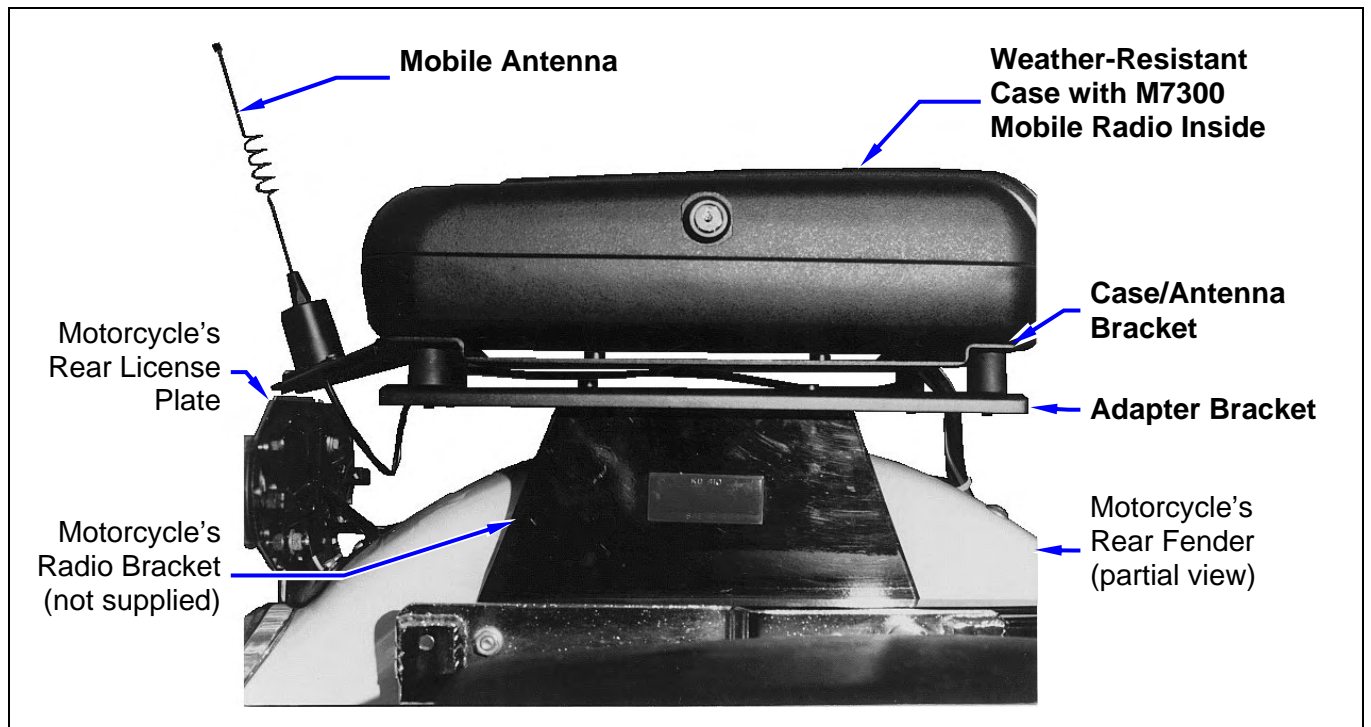

Figure 5-2: Typical Motorcycle Installation (Partial View of Radio Case and Brackets from Right Side)
- Motorcycle's Radio Bracket (sometimes referred to as an "Interface Bracket") — Typical type shown in Figure 5-2.